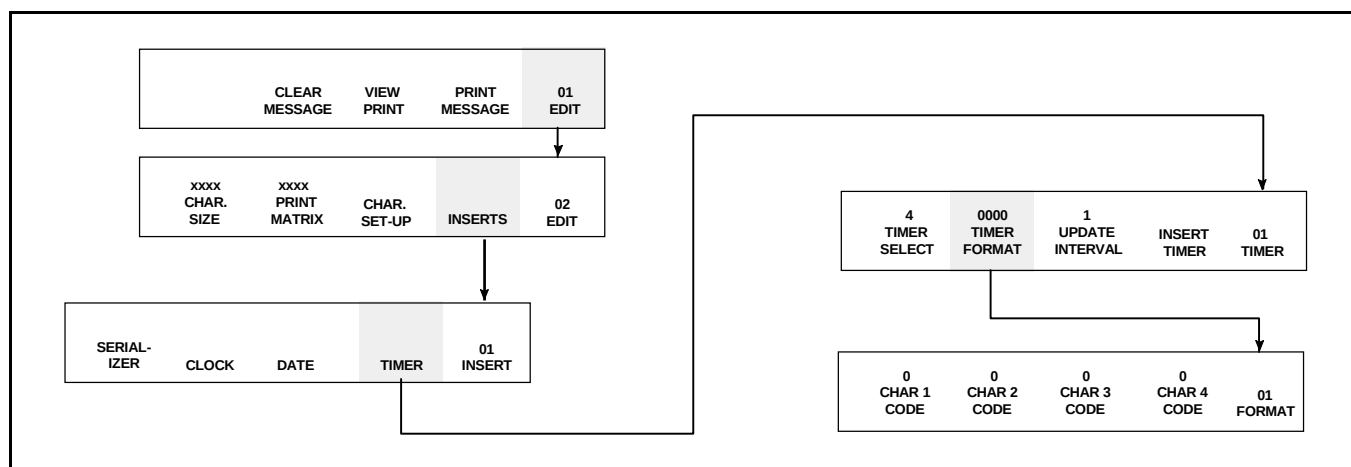

Figure 6-35. Accessing Frame <01 TIMER>
1. Begin in Frame <01 TIMER>. Refer to Figure 6-35.
5. Press the **F2** key to select <TIMER FORMAT>. Frame <01 FORMAT> appears in the display screen. Refer to Figure 6-35.